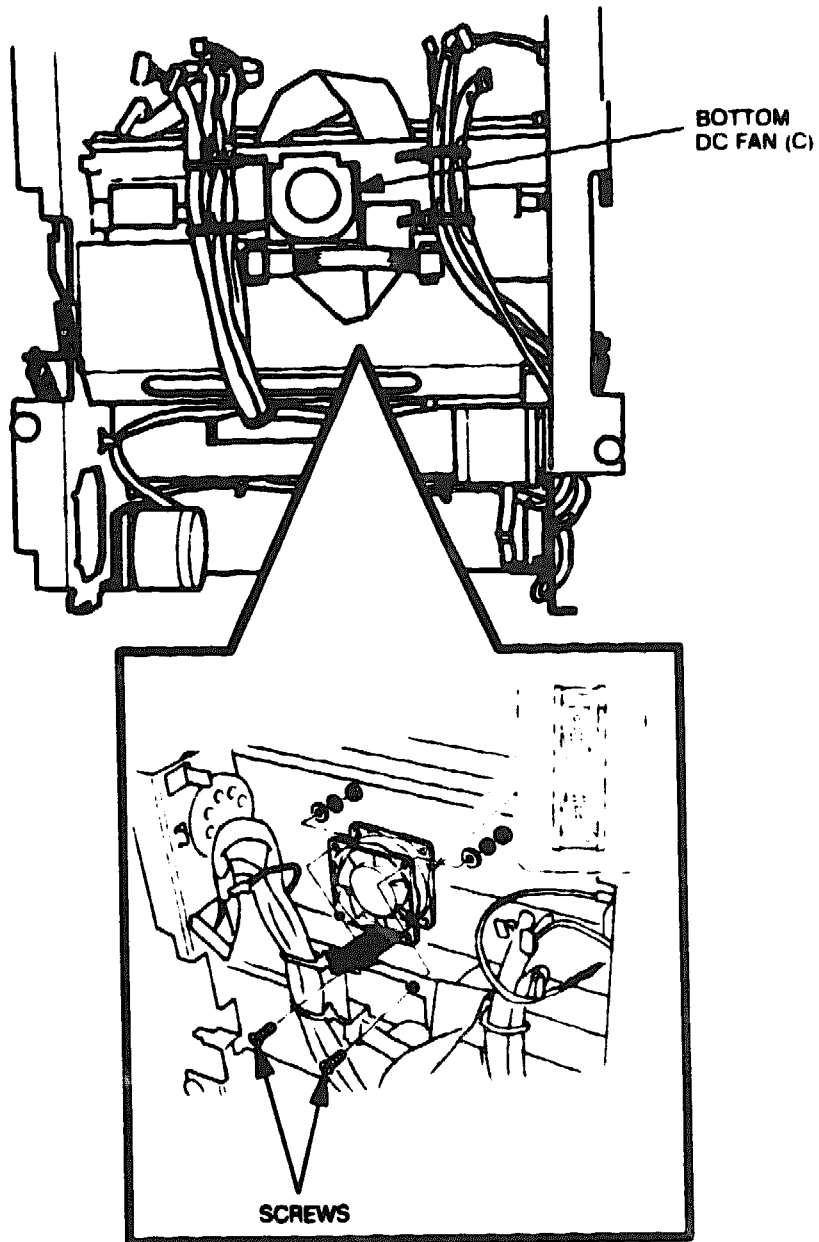

Figure 6-73 Bottom DC Fan (C) Removal
1. Remove the mechanism unit. Then place the mechanism unit on its side on the worktable so the bottom of the unit is exposed (see Figure 6-73).
2. Remove the two screws that secure the DC fan (C) to the bottom of the mechanism unit. Then remove the fan (see Figure 6-73)
Use needle-nose pliers to hold the nuts on the ends of each screw in place when removing the bottom DC fan (C). Additionally, be careful not to drop or misplace the washers and rings used to secure the fan (see Figure 6-73). When reinstalling the bottom DC fan (C), be sure to install it so air flows inward as shown in Figure 6-73.